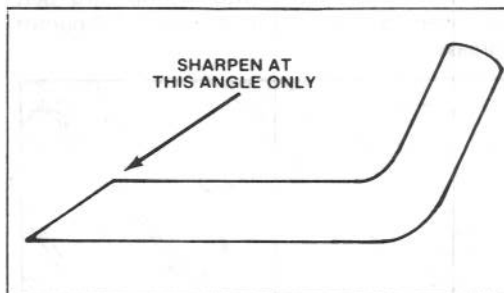

Figure 19
6. SHARPENING BLADE — Using a file, sharpen top side of blade and maintain original cutting angle (Fig. 19). The blade will remain balanced if same amount of material is removed from both cutting edges.